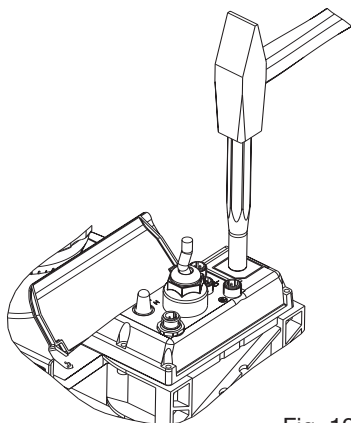

Fig. 19
- ▶ Place the S3Ca on a firm surface with the relay opening press-out section at the top (see fig. 19)